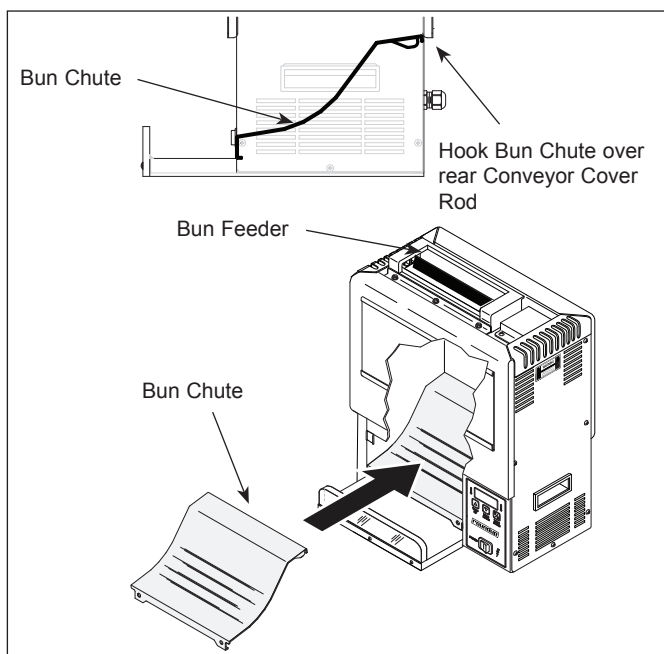

Figure 1. Installing Bun Chute
- Bun Chute (Figure 1)
- Bun Feeder (Figure 1)
1. Install the Bun Chute (Figure 1).